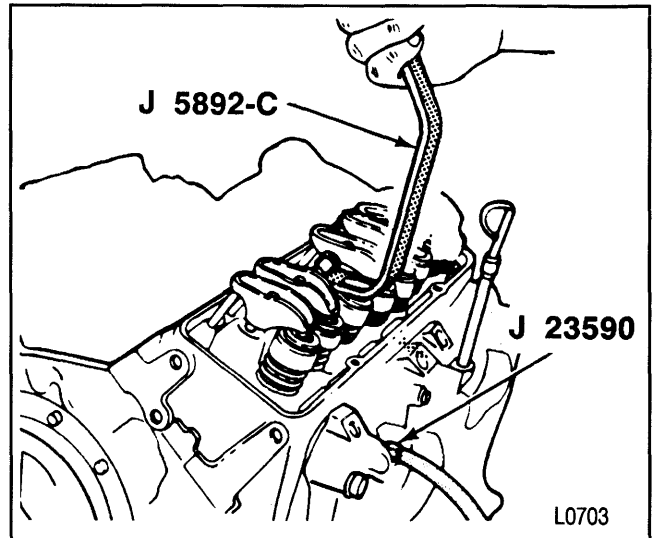

Figure 10—Compressing the Valve Spring
4. Valve keepers (20).
- C. Install a rocker arm nut (figure 10).
- D. Use J 5892-C to compress the valve spring (figure 10).
5. Cap (21) and/or rotator (28), shield (22), and spring (26) with damper (25).
6. O-ring seal (23).
7. Seal (24).
1. New seal (24). Install the seal over the valve stem and seat it against the head.
2. Spring (26) with damper (25), shield (22), and cap (21) and/or rotator (28).
3. New O-ring seal (23) and valve keepers (20).
- A. With air pressure applied to the cylinder with J 23590, compress the spring with J 5892-C (figure 10).